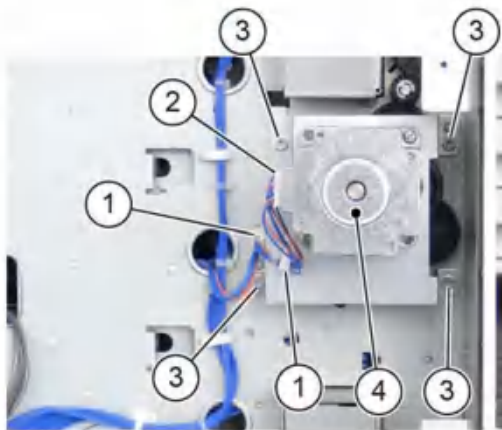

Figure 2 3TM takeaway motor removal
2. Remove the 3TM takeaway motor, **Figure 2**:
- a. Release the clamp (1).
- b. Disconnect the connector (2).
- c. Remove four screws (3).
- d. Remove the 3TM takeaway motor (4).